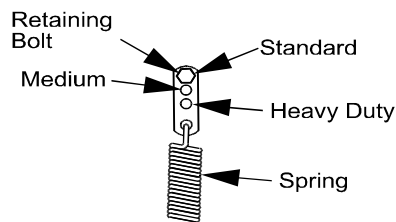

FIGURE 15
- b) For a heavier drive setting, relocate the spring anchor links to either the “medium” or “heavy duty” positions as shown in Figure 15. The spring anchor links are attached to the upper rear corner of the hydro drive shields on the left and right hand sides of the machine.